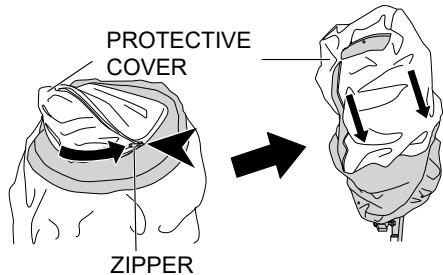

Figure 27. Unzipping Protective Cover
3. Unzip the zipper of the protective cover and roll down it over the balloon cloth (Figure 27).